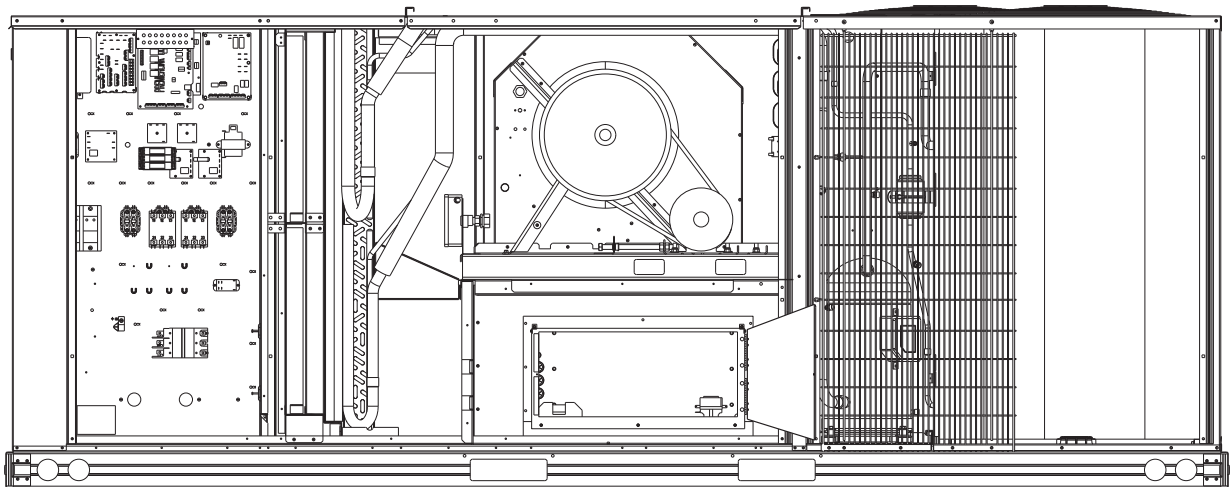

Fig. 4 - Electric Heater Accessory In Place (shown with Access Door Opened)
5. Slide heaters until completely installed such that heater controls are completely in the unit. Using screws saved from Step 3, secure heater assembly. (See Fig. 4.)